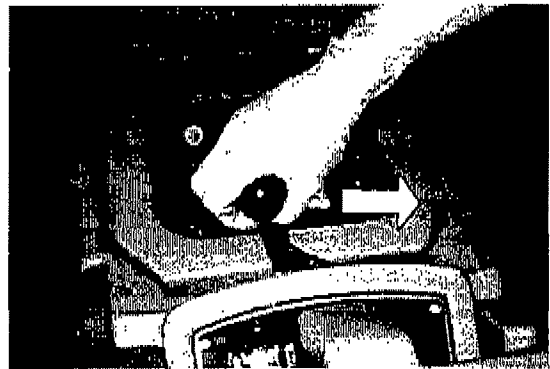

FIG. 21
2. Lower squeegee assembly by moving squeegee lift knob to the right (Figure 21).